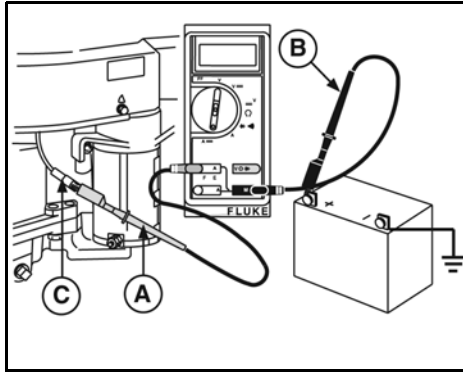

Figure 17
1. Insert RED test lead (A, Figure 17) into 10 Amp receptacle in meter.
2. Insert BLACK test lead (B) into COM receptacle in meter.
4. Attach RED test lead clip to DC output terminal connector (C).